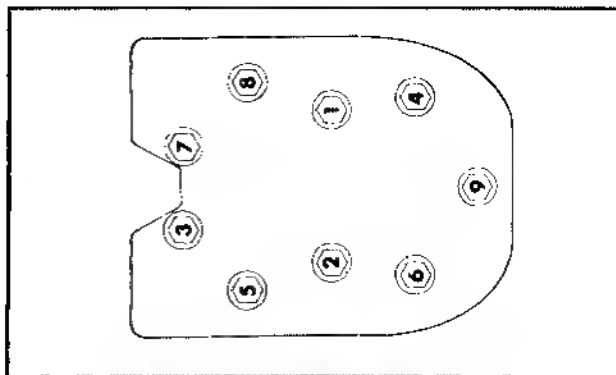

Figure 3-10. Cylinder Head Fastener Tightening Sequence.
3. Reinstall cylinder heads using new gaskets. Torque cylinder head fasteners in increments to **15/20 ft. lb.** in the sequence specified in Figure 3-10.